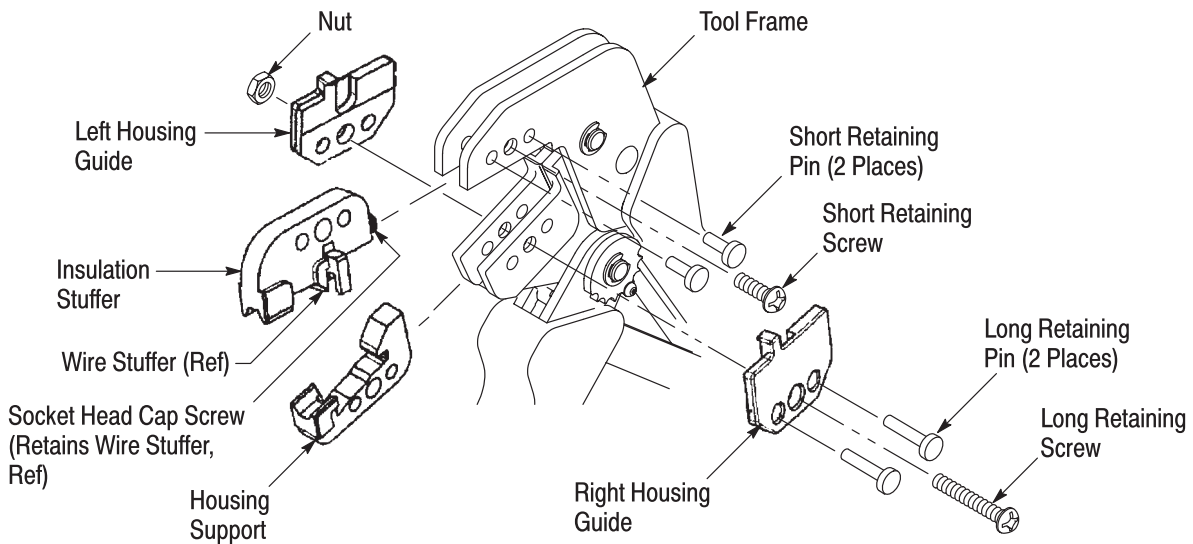

Figure 2
2. Orient the insulation stuffer as shown in Figure 2, and insert it into the stationary jaw of the tool frame. Align the holes with the associated holes in the tool frame. Insert the short retaining pins and short retaining screw into the holes in the tool frame. Tighten the screw.
3. Orient the housing support as shown in Figure 2, and insert it into the moving jaw of the tool frame. Align the holes with the associated holes in the tool frame. Orient the right housing guide as shown, and mount it onto the tool frame using the long retaining pins. Insert the long retaining screw through the hole in the right housing guide. Tighten the screw.
4. Refer to Figure 2. Orient the left housing guide as shown, and secure it onto the tool frame using the nut. Tighten the nut.
1. Install the wire stuffer onto the insulation stuffer using the 4-40 UNC x .621 in. socket head cap screw included with the die assembly. Refer to Figure 2.